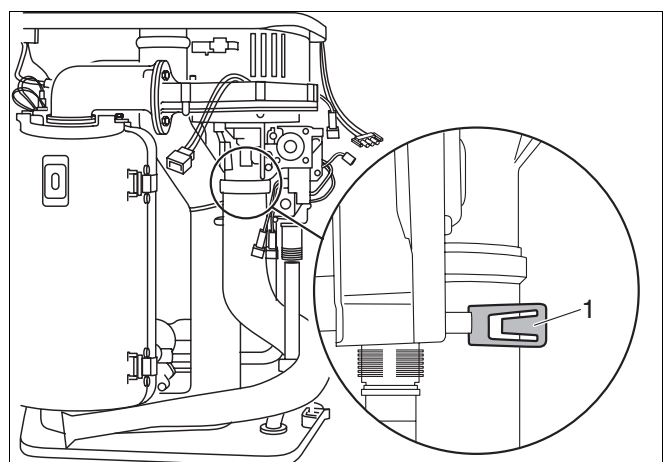

Fig. 53 Replacing the fan on the 600 Series:
- Push the safety plate out of the way (fig. 53, item 1).